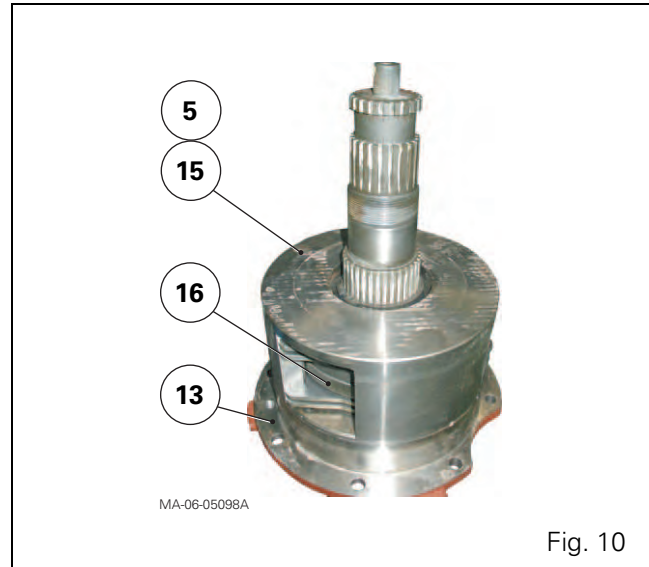

Fig. 10
- intermediate housing (19);
- head bearing (cone (7) and cup (10));
- thrust washer (4);
- bearing carrier (13);
- end bearing (cone (1) and cup (2)).
28. Lightly grease the bearing (7)(10) with clean transmission oil.
29. Slide the drive pinion into the bearing carrier (13). Position the assembly vertically on a workbench.
30. Reassemble the handbrake system (16) on the drive pinion (Fig. 10 and chapter 6).
31. Fit (Fig. 10):
- the circlip (5);
- the unit (15). Tighten on the carrier (13) (see chapter 6).